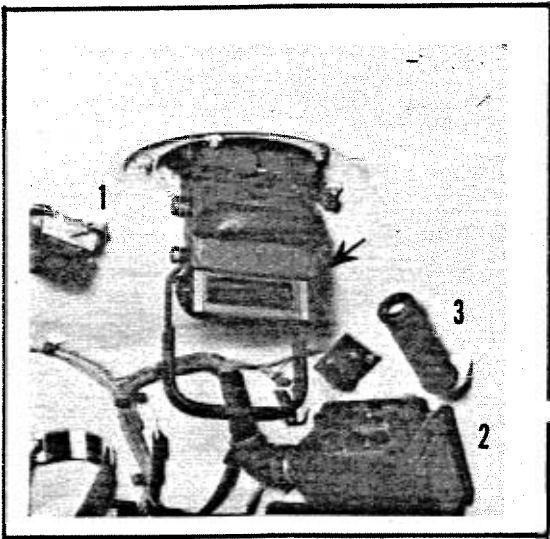

FIG 3-47 LOADER'S PERISCOPE MK-4,
e. Loader's Periscope, MK-4S (Figs. 3-47, 3-48). The loader has a periscope mounted in the turret ceiling that gives him vision to the front and side of the vehicle. The periscope swivels in its mount and can be rotated about its horizontal mounting axis.
f. Loader's Handgrip (Panic Grip) (Fig. 3-47). The loader has a handle to the right of his periscope that is to be used during firing of the main gun or during vehicular movement across rough terrain.